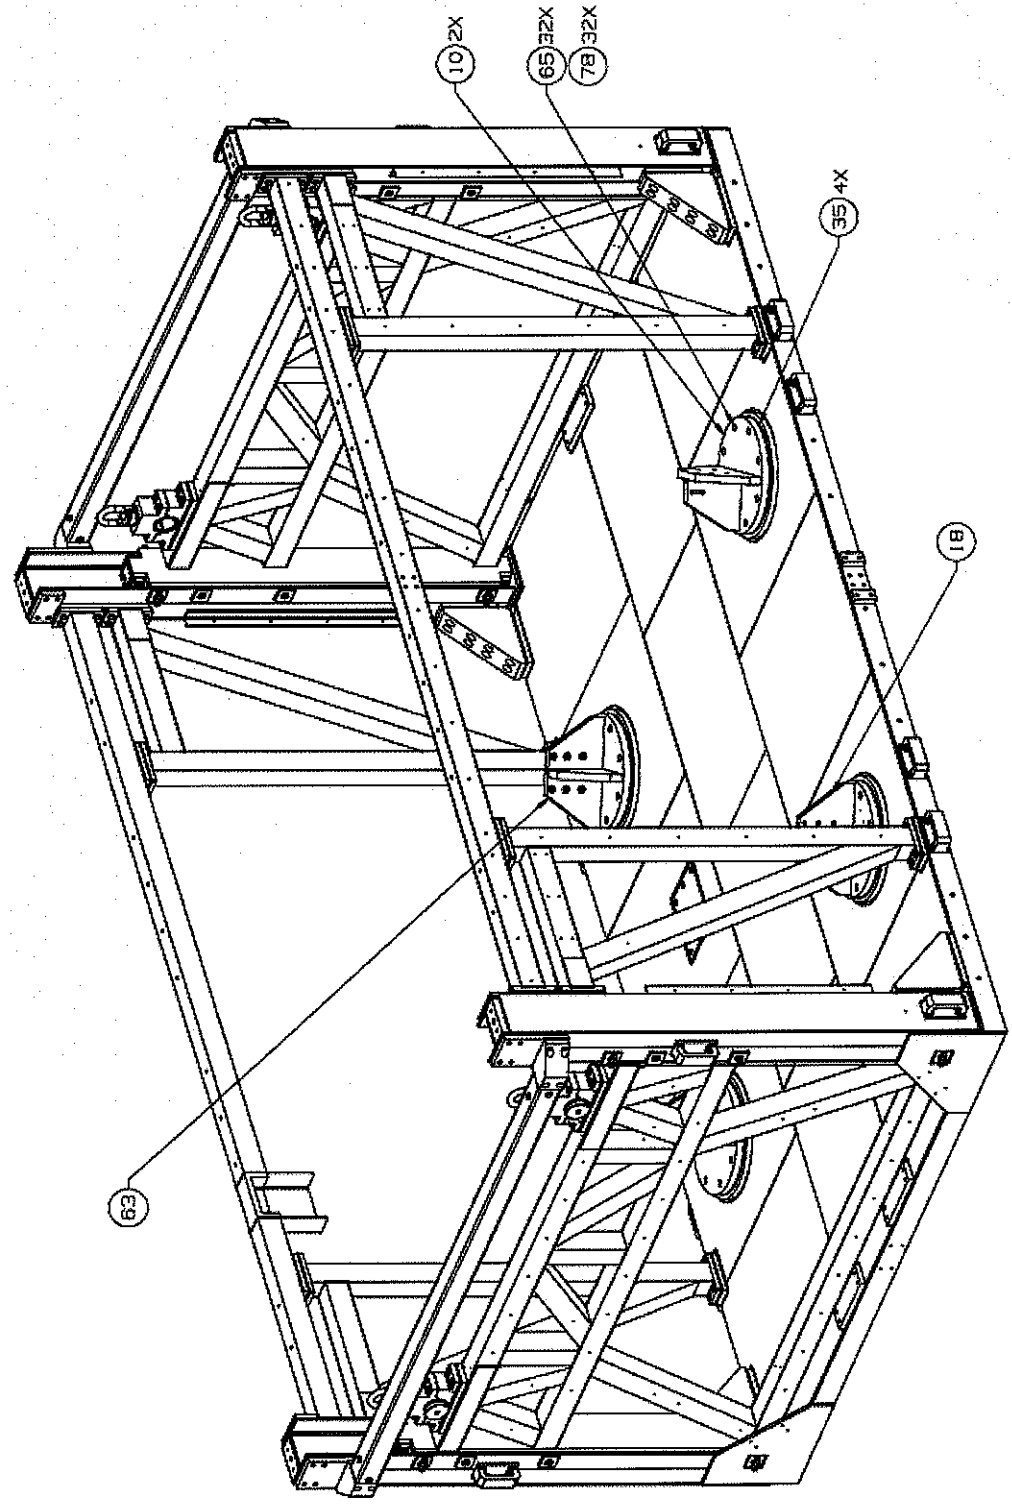

Figure 6
6. Using Figure 6 as a reference, remove eight (8) item 65 bolts, SDG38117090-801 (C1), eight (8) item 78 washers, NAS1587-8C, and one (1) item 35 pedestal shims, SDG38117053-805 (GSE), used in securing each of the two (2) item 10 Pedestal Weldment A, SEG38117020-701 (GSE), the one (1) item 18 Pedestal Weldment B, SEG38117020-702 (GSE), and one (1) item 63 pedestal weldment C, SEG38117020-703 (GSE). Check the fastener for signs of damage. If the fastener shows signs of damage, mark the hardware and remove from service. Place the bolt, washer, and shims in a bag. Mark on bag the location from which